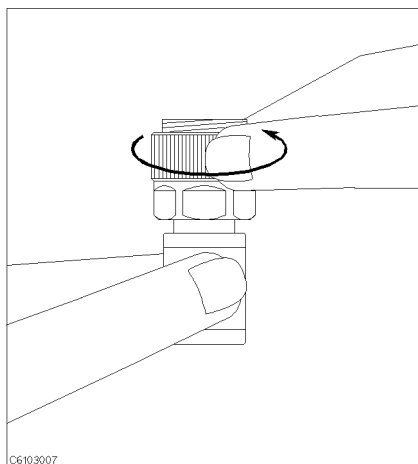

Figure 5-9.
11. Turn only the APC-7[®] connector nut of the $50\ \Omega$ termination as shown in Figure 5-9.